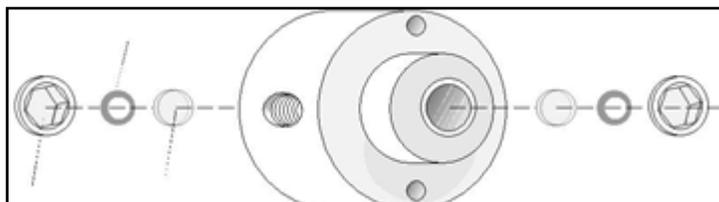

Figure 7.3.
6. To replace the flowcell O-rings (PN A000689), remove the Allen nuts (PN A000686) from both sides of the flowcell. When disassembling the flowcell, be very careful not to drop or lose the quartz windows (Figure 7.3).